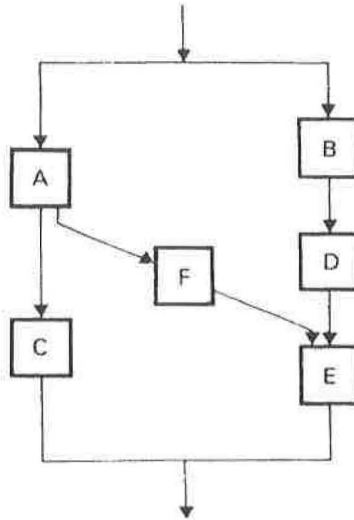

Figure 2.1
2. Figure 2.1 shows the reliability model of a system with components having reliability of 0.99.